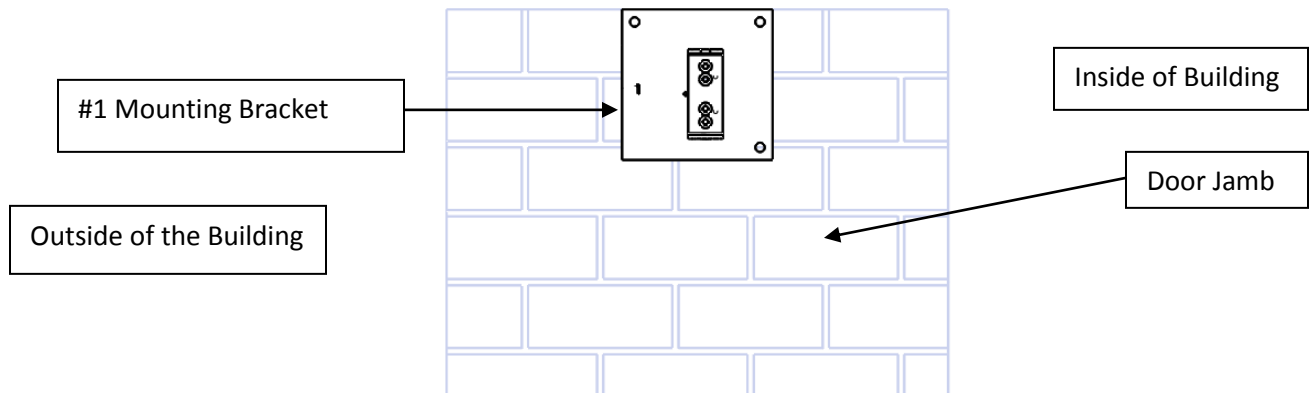

Figure 1
3. Locate and mount the operator bracket Punched #1 at the top of the jamb, centered as shown in (figure 1). Please refer to your shop drawing if you have a left hand or right handed operator. Self-tapping #10 hex head screws are provided for fastening to a steel jamb. Pre-drill all fastening points with a #22 bit. If fastening to wood or concrete jamb, round or oval head #10 x 3/4" screws are recommended with rawl plugs for concrete (not supplied).